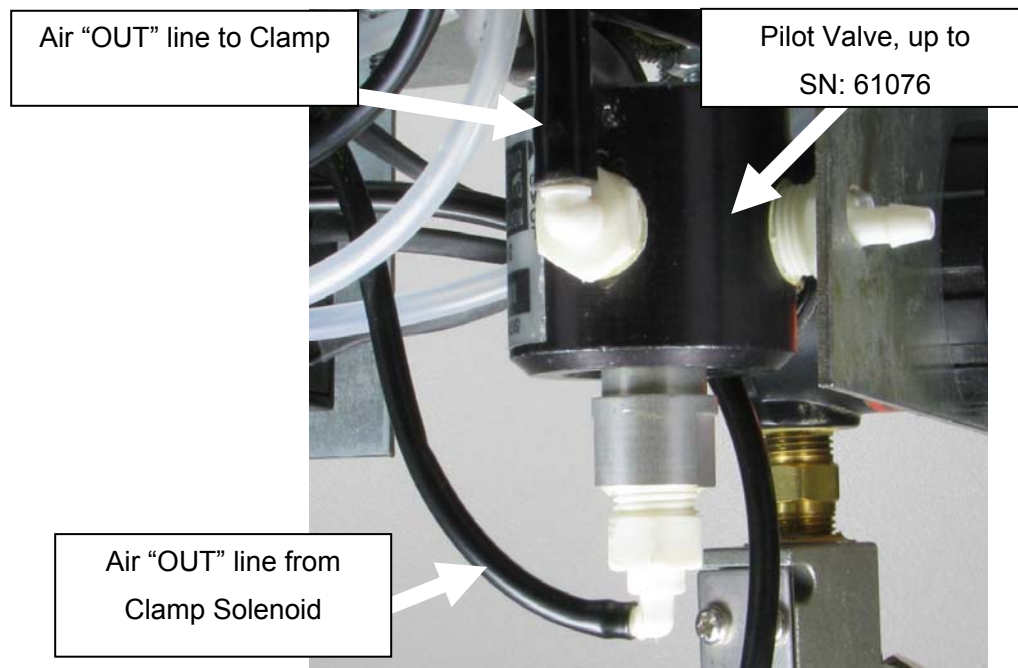

Fig 7
1. Disconnect the "Air Out" line from the Clamp Solenoid (this hose controls the Pilot Valve). **See Fig 7.**